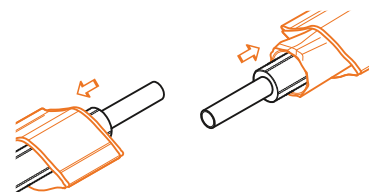

Fig. B11.1.1
1. Before the service pipe compression connection is made, slide the heat shrink sleeve with heat shrink bands over the pipe outer casing (Fig. B11.1.1), ensuring that the joint area is clean and free from dust and dirt.